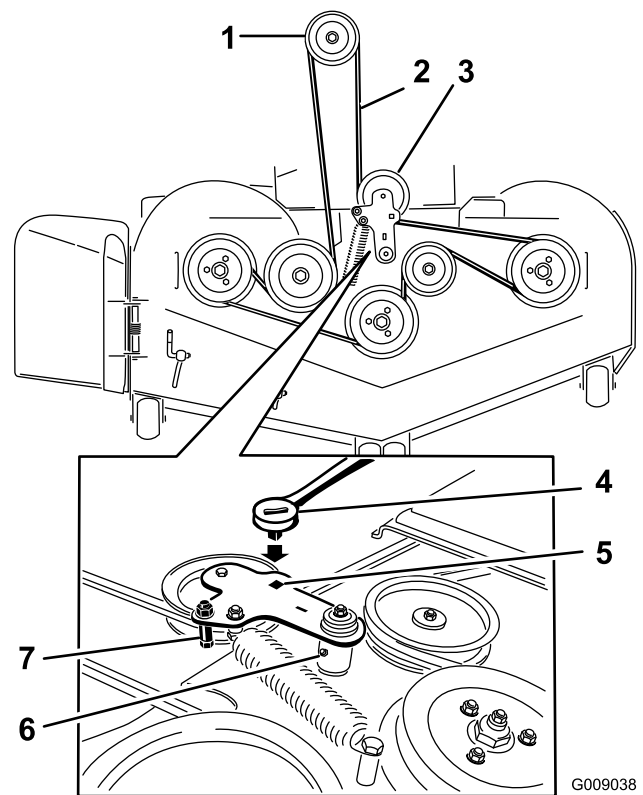

Figure 97
5. Lift the floor pan and insert a ratchet into the square hole in the deck idler (Figure 97).
6. Rotate the deck idler clockwise and remove the mower belt (Figure 97).